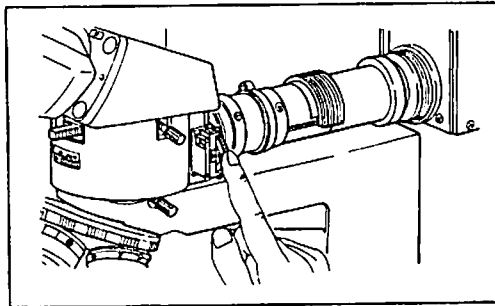

Fig. 6
In the state of the tint-plate pulled out of the optical path, when the index dot (●) on the polarizer rotation ring is brought to the triangle (►) (refer to Fig. 6), the background will be dark, offering an interference image similar to the brightfield phase-contrast image.
- ⑬ Rotating the polarizer rotation ring, bring the index dot [●] into coincidence with the triangle mark [▶] to obtain the position of Crossed Nicols. (Refer to Fig. 6.)
- ⑬ Rotating the polarizer rotation ring, bring the index dot [●] into coincidence with the triangle mark [►] to obtain the position of Crossed Nicols. (Refer to Fig. 6.)
- ⑭ Adjust the brightness by ND filter or by changing the lamp voltage.